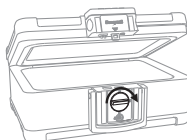

Figure 2.3
3. While holding the knob in the unlocked position, lift the lid to open (Figure 2.3).